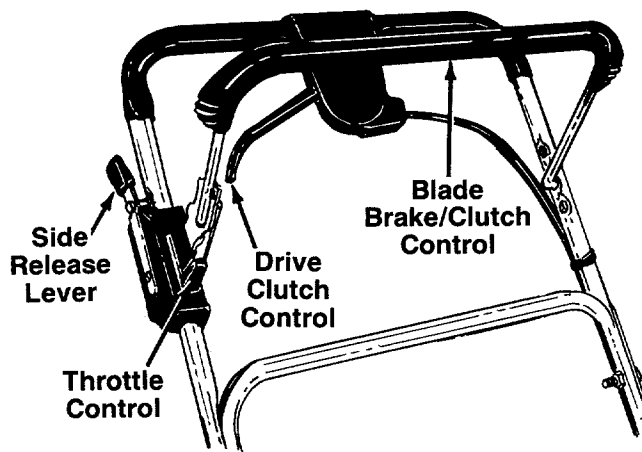

FIGURE 10.
The throttle is located on the right side of handle. It controls engine speed. See figure 10.
Squeezing the drive clutch control engages the drive mechanism to the rear wheels. Releasing the clutch control stops the rear wheels from driving. Release the drive clutch control to slow down when negotiating an obstacle, making a turn or stopping. See figure 10.
To engage the blade, pull the side release lever away from the unit. See figure 10. Pull the blade brake/clutch control handle against the upper handle. Release side lever.
2. To engage the blade, pull the side release lever away from the unit. Pull the blade brake/clutch control handle down against the upper handle. Release the side lever. See figure 10.